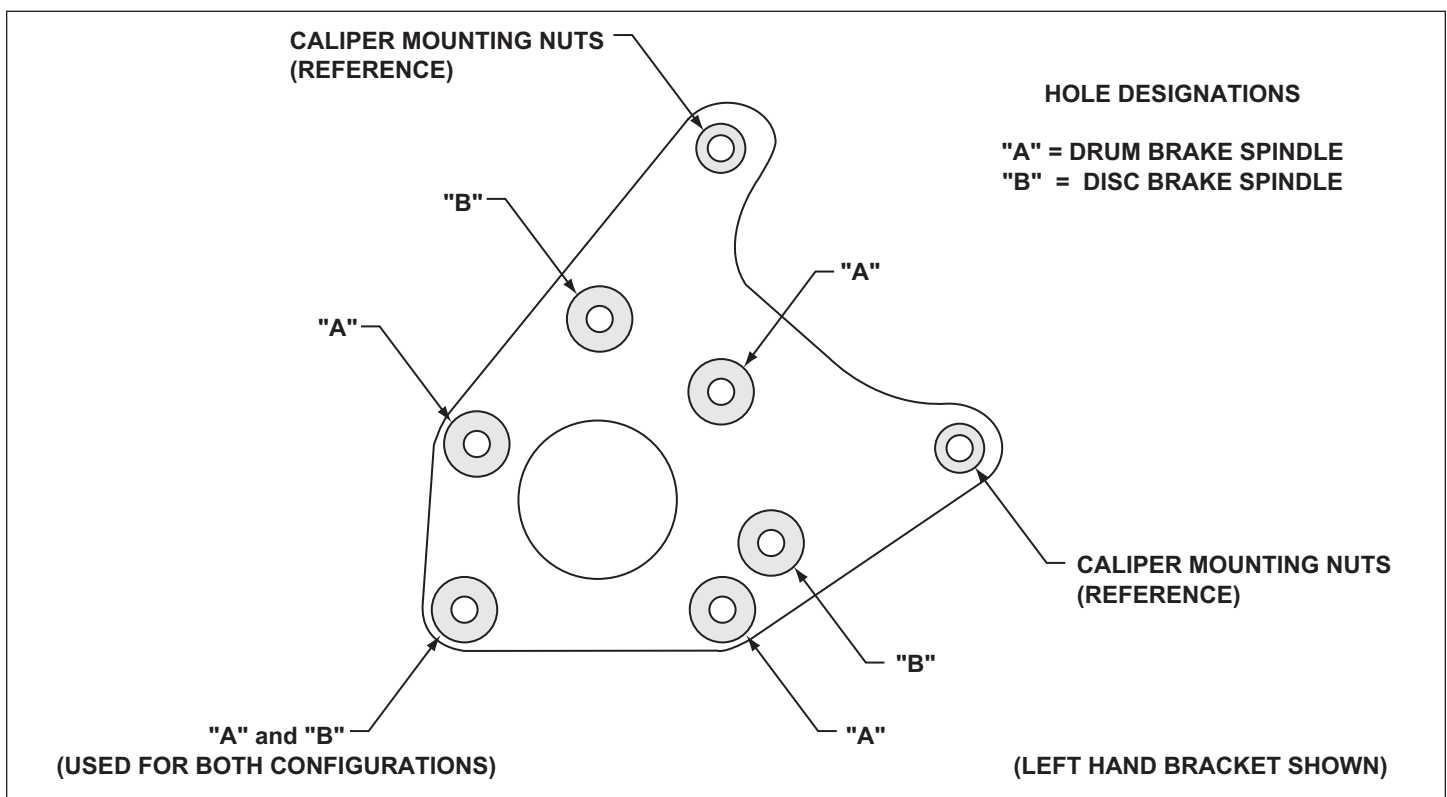
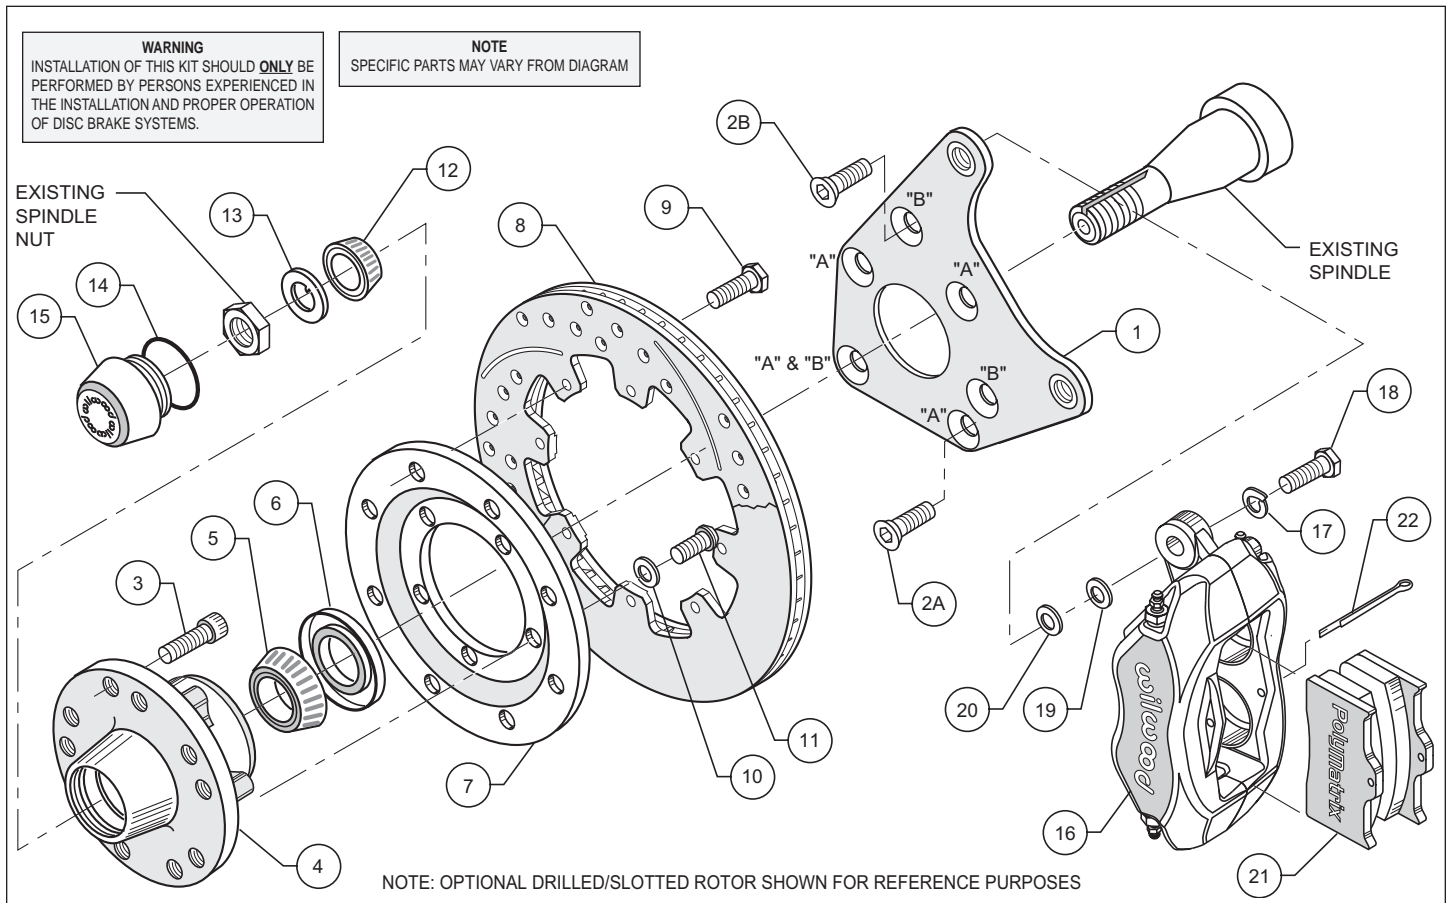

Figure 1. Wilwood Caliper Mounting Bracket
Figure 2. Typical Installation Configuration
This kit has been designed for use with both the disc brake or the drum brake configuration of vehicle. The only difference is in how the Wilwood caliper mounting bracket is installed. The same bracket is used for both configurations; the disc brake version utilizes three mounting holes while the drum brake application uses four mounting holes (see Figure 1). For your convenience we have supplied bolt kits for both applications (see parts list and Figure 2 as necessary, item(s) 2A and 2B). Use the bolt kit that is applicable to your vehicle and disregard the other one.
These modifications should be performed by a qualified machinist and completed before assembly of the Wilwood disc brake kit begins. Using the caliper mounting bracket as a template (refer to figure 1 as necessary), locate and verify the three original stock holes on the steering arm that need to be modified. Drill a .332 diameter hole through all three holes, then tap 3/8-24 UNF (fine thread). Countersink the holes to .438 x 90°.
•As mentioned before, this kit uses the same mounting bracket (1) for both the drum and disc brake spindle. The drum version utilizes four mounting bolts (designated with a "A"), while the disc only requires three (designated with a "B"). Refer to figure 1 and figure 2 as required for the basic installation position of the bracket and the "A" and "B" reference designations (these designations are not physically marked on the bracket, they are referenced on the drawings for your convenience) and align using the three or four holes (as applicable) to the face plate of the steering arm. Install bolts (2A or 2B) through caliper mounting bracket (1) into steering arm, finger tighten only. After you are positive of the bracket (1) alignment, remove the mounting bolts (2A or 2B) one at a time and Apply red *Loctite*® 271 to bolt threads (2A or 2B), then reinstall. Torque bolts 2A or 2B to 30 ft-lb. **NOTE:** Be sure the heads of the bracket (1) insert nuts are facing outward toward the wheel.